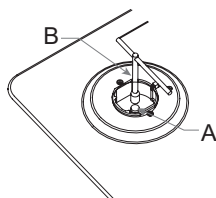

Fig. 9
2. Remove burner components “B” and pan supports (Fig. 9).
3. Remove the injectors “A” (Fig. 9) with a socket spanner and replace with the corresponding injectors.